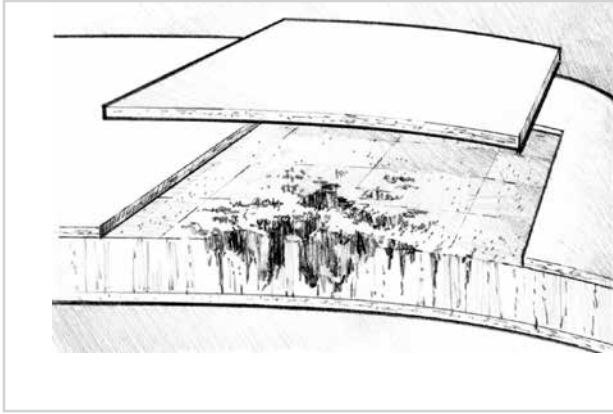

Figure 5-5 Cut through the skin only, outside of the area of delamination. Pry the skin carefully away from the core material.
2. Remove the skin (Figure 5-5). The skin should separate easily in areas where the core is damaged or wet. In areas where the skin is well bonded to the core, use a chisel or thin blade between the skin and core to pry the skin away from the core material. Be careful not to bend the skin too much or gouge the core. Applying heat to the joint with a heat gun will also help to soften the skin core bond. Be careful not to overheat the skin.